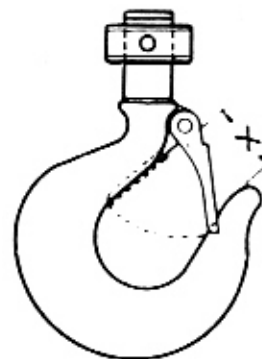

FIGURE 1. HOOK REPLACEMENT
- Check hooks for deformation, chemical damage or cracks. Bent hooks or hooks damaged from chemicals, deformation, cracks or having excessive throat opening (see Figure 1) should be replaced.